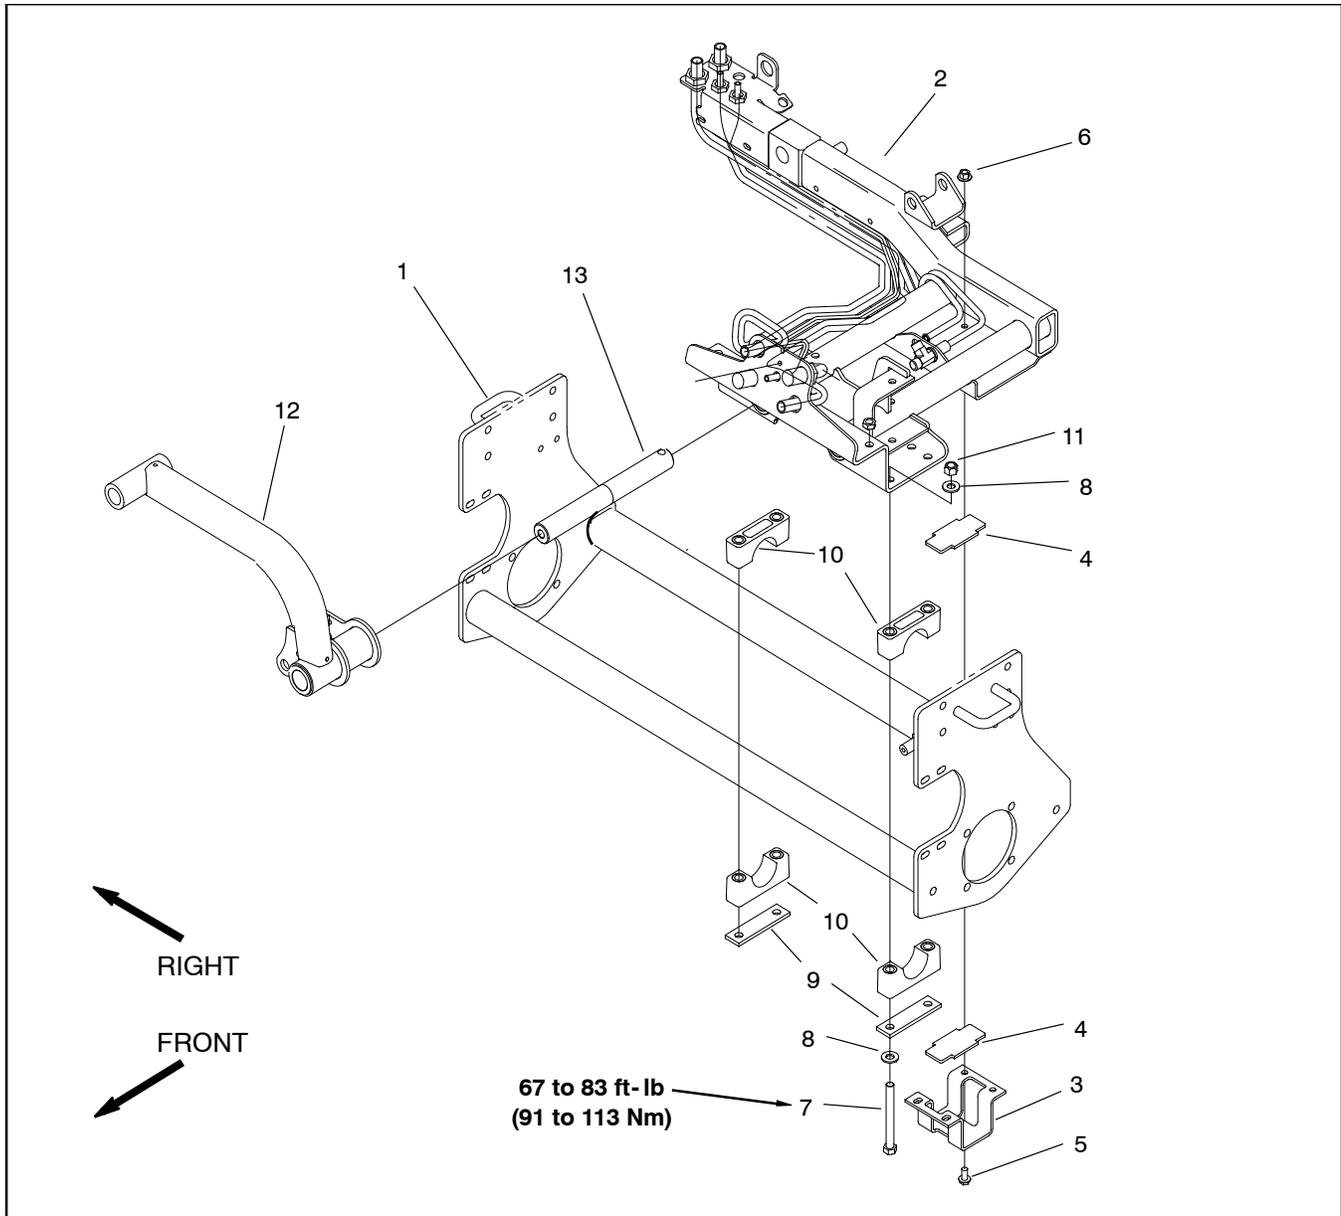

Figure 21
3. Disassemble sidewinder carrier as needed (Fig. 21).
1. Assemble sidewinder carrier using (Fig. 21).